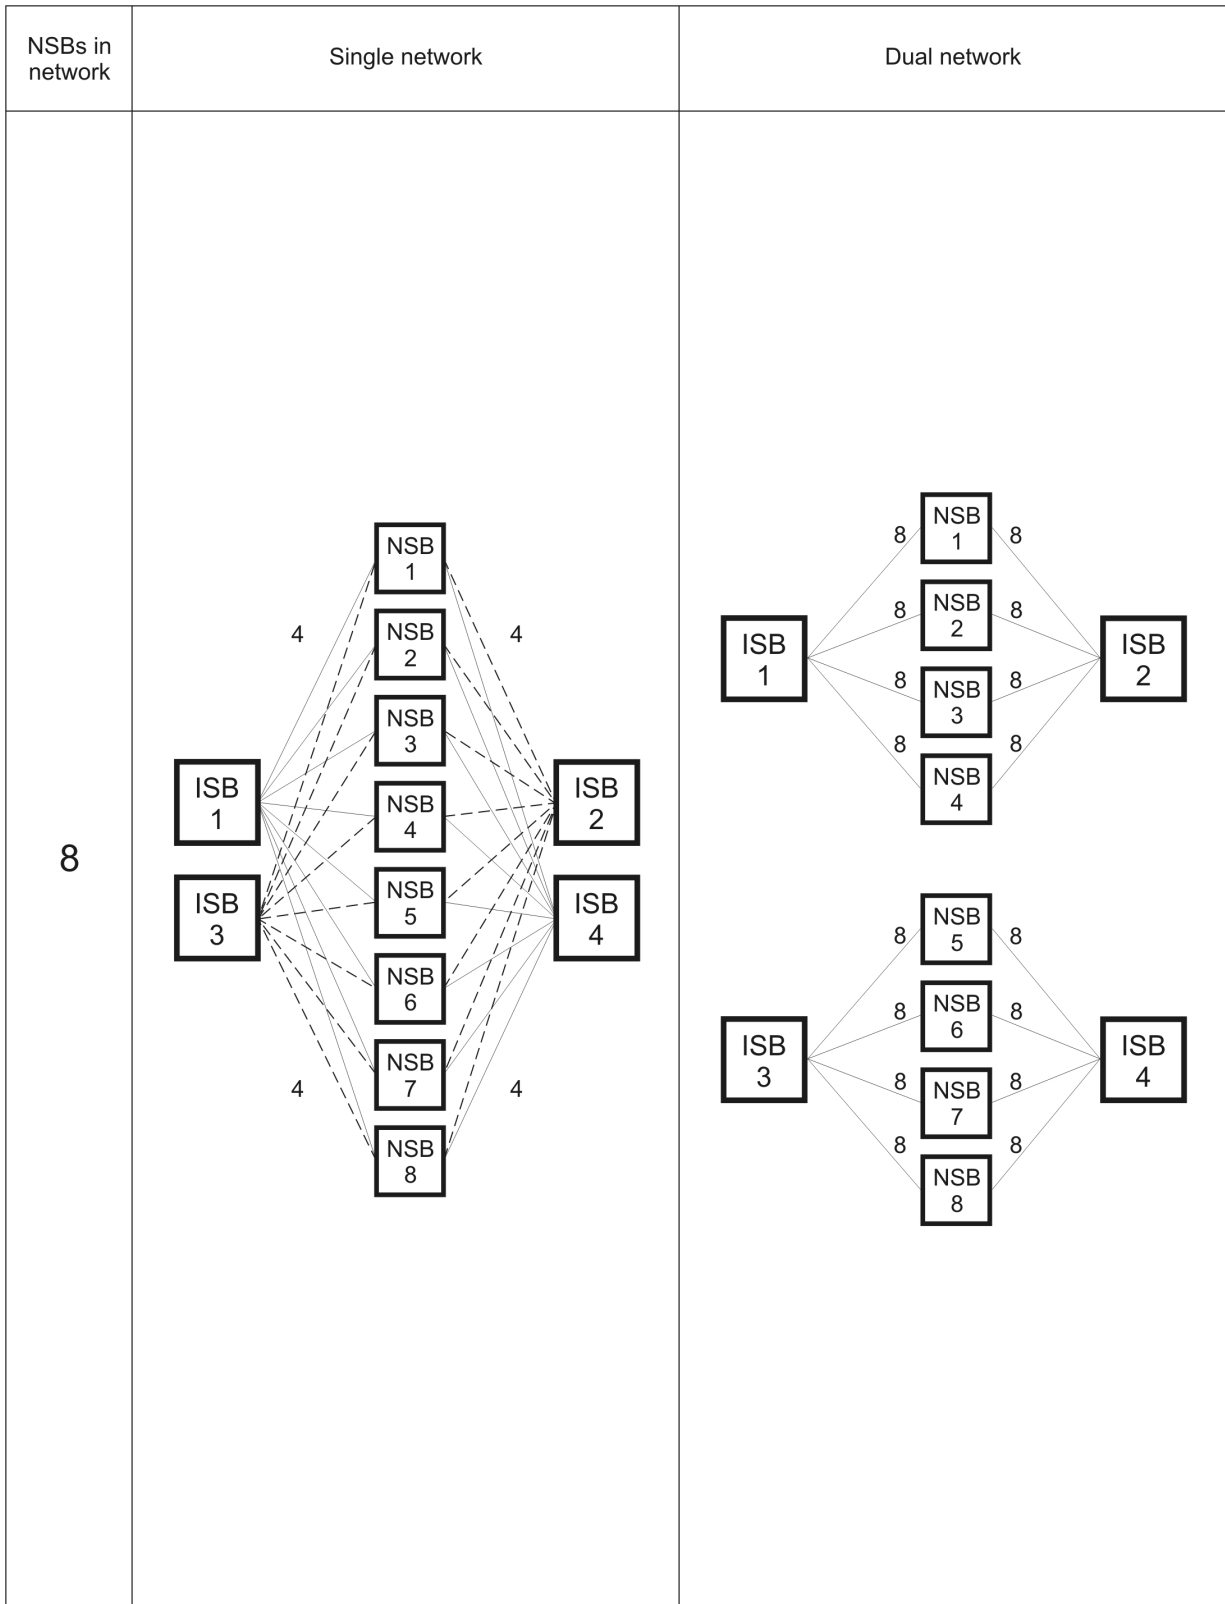

Figure 10. Switch cable paths for networks with eight NSBs and four ISBs
- Figure 10 on page 38 for networks having eight NSBs